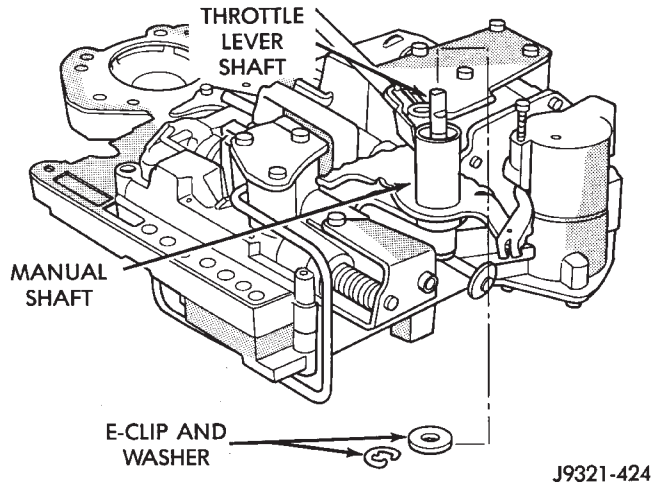

Fig. 56 Throttle Lever E-Clip And Washer
(16) Remove E-clip and washer that retains throttle lever shaft in manual lever (Fig. 56).